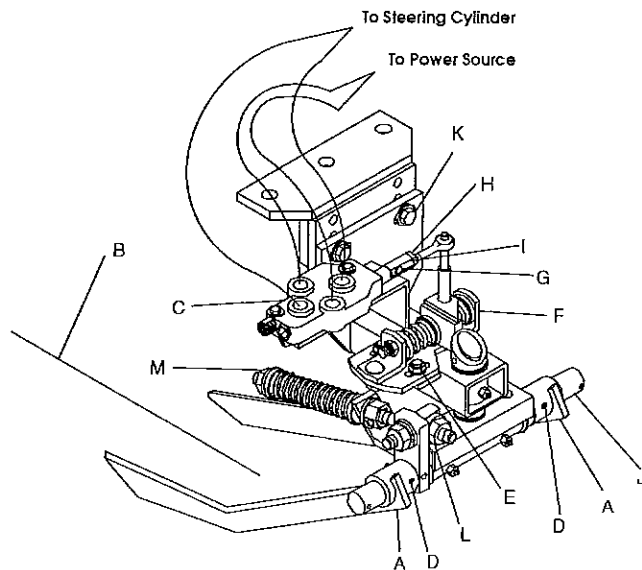

FIGURE 20 - ROW FINDER
The optional row finder helps keep your harvester on the rows. The feeler arms (A) rest astride the row (B) and follow the line of beets - sensing any change in the direction of the row or the position of the harvester (see figure 20). Sideward movement of a feeler arm actuates the hydraulic valve (C), which controls oil flow to the beet harvester steering cylinder.